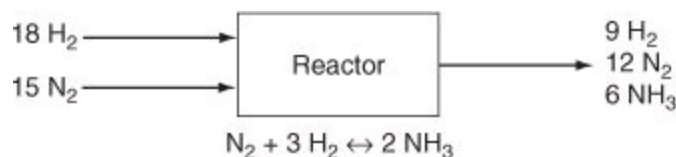

Figure 5.2. A reactor to produce NH_3
Fortunately, you only have to add one additional variable to account for the generation or consumption of each species i present in the system *if you make use of the extent of reaction* that was discussed in Section 5.2. To make the idea clear, let's examine the reaction of N_2 and H_2 to form NH_3 in the gas phase. Figure 5.2 presents the process as a steady-state, open system operating for a fixed interval so that the terms will be zero on the left-hand side of the equal sign in Equation (5.7). Figure 5.2 shows the measured values for the flows in gram moles.
You can conclude for the case of a single chemical reaction that the specification of the extent of reaction provides one independent quantity that will determine all of the values of the generation and consumption terms for the various species in the respective implementations of Equation (5.7) because the molar ratios of the reactants and products are fixed by the solo independent chemical reaction equation. The three species balances corresponding to the process in Figure 5.2 are listed below based on Equation (5.8), an equation directly derived from Equation (5.1) for an open, steady-state process:
Let's calculate ξ given that zero moles of NH₃ are introduced into a reactor and that 6 moles exit as in Figure 5.2. Then
2. What does the negative sign in front of ξ mean? The negative sign signifies that the chemical reaction equation was written to represent a direction that is the reverse of the one in which the reaction actually proceeds as in Figure 5.2.